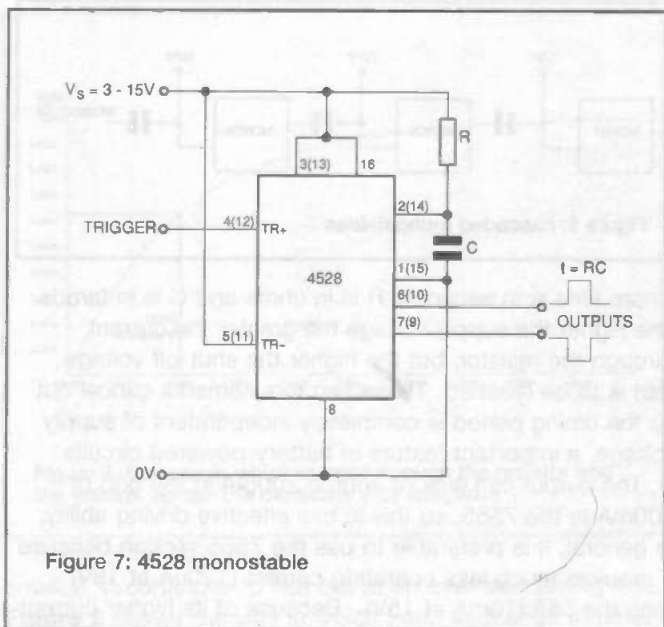

Figure 7: 4528 monostable
The 4528 IC (which has replaced the 4098) contains two identical monostables. In figure 7 the pin numbers in brackets are for the second of these. The timed period is 1 time constant, $t = RC$. The Clear input (pin 3/13), normally held high, resets the timer when pulsed low, and timing can not begin until the Clear input is made high again. The IC has positive-edge and negative-edge triggering. Use pin 5 (11) for negative-edge triggering and wire pin 4 (12) to 0V. Other special features of this monostable are complementary outputs and the fact that the monostable is retriggerable. That is to say, if it is triggered again after the first triggering, the ON period is timed from the most recent triggering. One feature, that could be a disadvantage under some circumstances, is that the capacitor is discharged at the beginning of the cycle, before charging starts. This means that there is a delay of perhaps several milliseconds (depending on capacitor size) before timing begins. If there is a choice of capacitor and resistor values, it is preferable to use as large a resistor as possible (it can take resistors